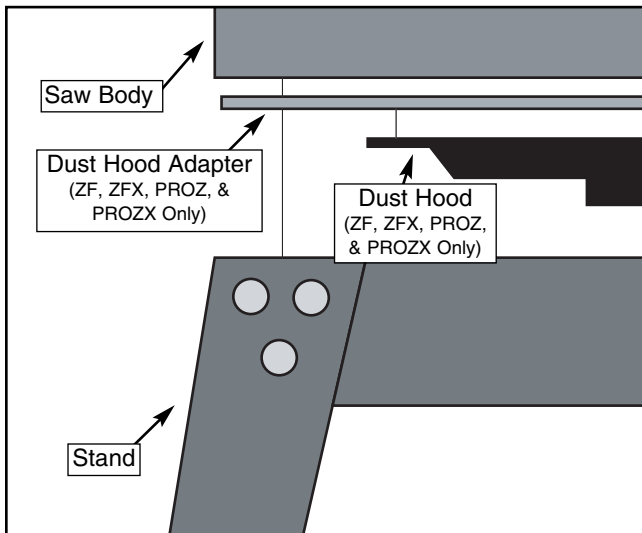

Figure 13. Attaching the stand to the saw base.
9. Secure the stand to the body using M8-1.25 x 19 hex bolts, 8MM flat washers and M8-1.25 hex nuts, with the dust port sandwiched between on the Models ZF, ZFX, PROZ, & PROZX, as shown in **Figure 13**.